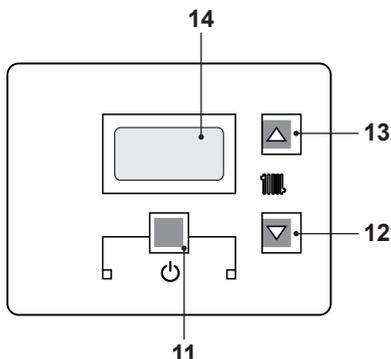

Fig. 2.5
- Press the key 11 for 2 seconds until  symbol appears on the display Fig. 2.5.
The output temperature of c.h. water can be adjusted by acting on keys 12 (reduce) and 13 (increase) (Fig. 2.5) from a minimum of about 25°C to a maximum of about 85°C. Press one of the two keys once to display the "set" value. Press again to access the modification.
However, if the ambient temperature is not comfortable, the flow temperature of the heating plant can be increased or reduced by  $\pm 15^{\circ}\text{C}$  by acting on keys 12 (reduce) and 13 (increase) (Fig. 2.5).